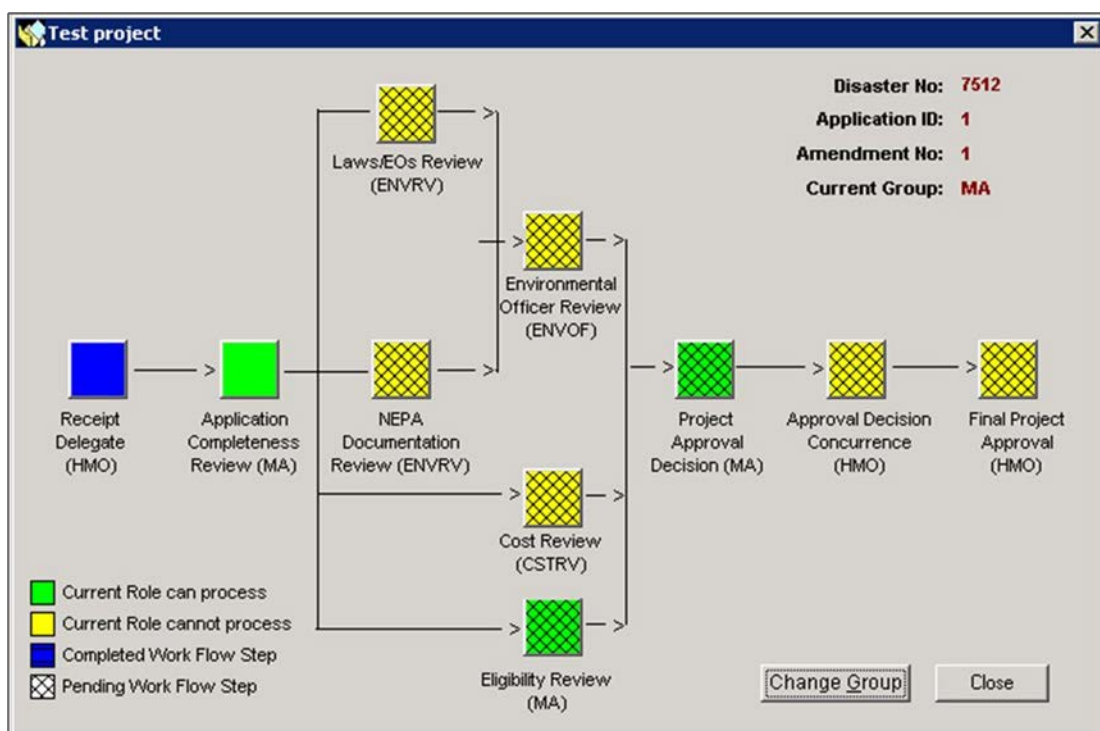

Figure 7-7: Workflow Map Diagram
6. On the bottom left part of the screen, click the WORK FLOW MAP button. A graphic of the project application's work packets, their place in the eligibility determination workflow, and your current Group ID is displayed (Figure 7-7). 6a-6d describes the steps you can do on the Workflow Map Diagram screen.